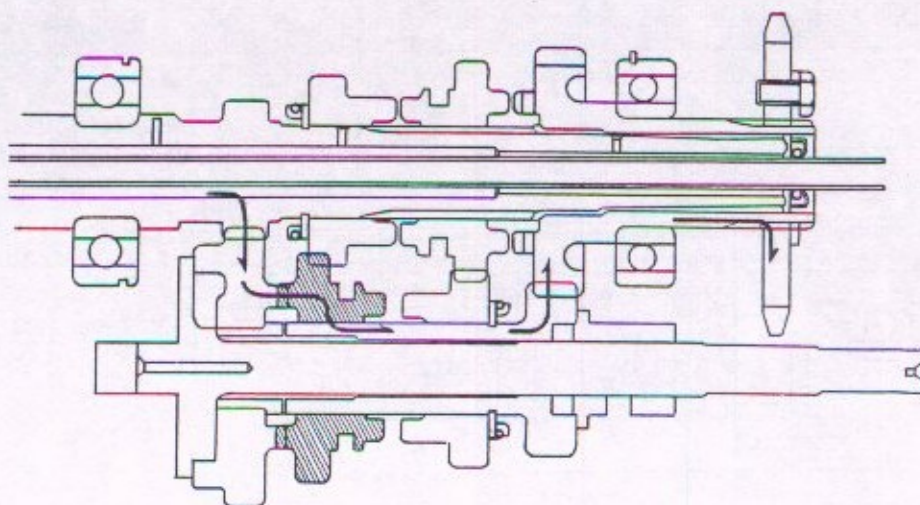

Fig. 3-6. The first
spline on the counter shaft complete can move freely axially, move this to the left side by gear shift fork to mate with low gear (Fig. 3-6) then the low gear combines with the counter shaft as one body to transmit power to the top gear (112). Here the axial movement of mainshaft gear is restricted by the gear cotter (114) and the set ring (115) but not restricted rotationally. (Similarly counter shaft 3 gear (111).